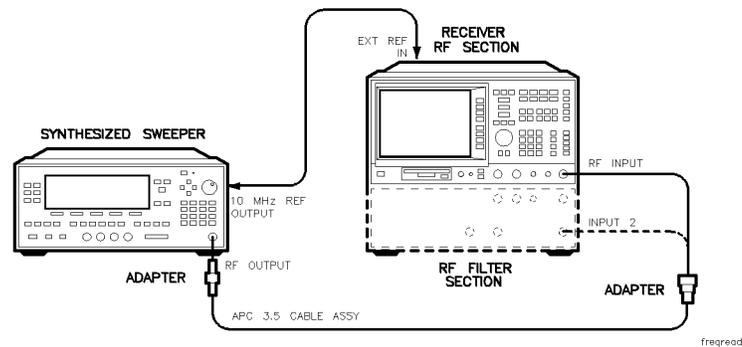

Figure 2-1. Frequency Readout Accuracy Test Setup
1. Connect the equipment as shown in Figure 2-1. Remember to connect the 10 MHz REF OUT of the synthesized sweeper to the EXT REF IN of the receiver.